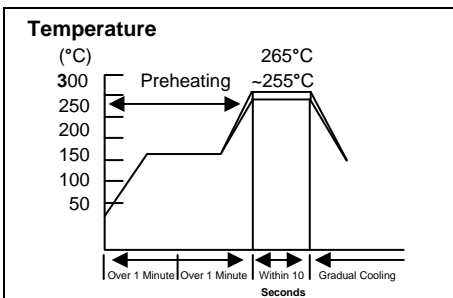

Figure 1. Reflow Soldering
- (1) Solder Reflow: Recommended temperature profiles for reflow soldering are shown in Figure 1.